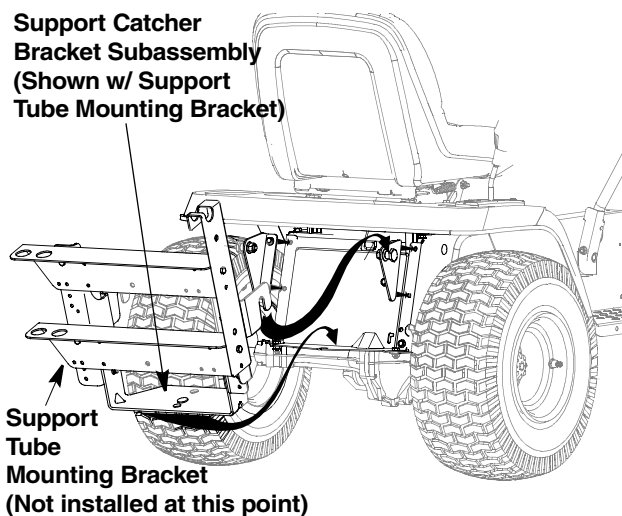

Figure 3
- Position the hooked ends of the Support Catcher Bracket Subassembly to the outside of the Catcher Support Brackets and over the shoulder bolts on both sides as shown in Figure 3.
- Position the hooked ends of the Support Catcher Bracket Subassembly to the outside of the rear tractor frame and over the existing shoulder bolts on both sides as shown in Figure 3.